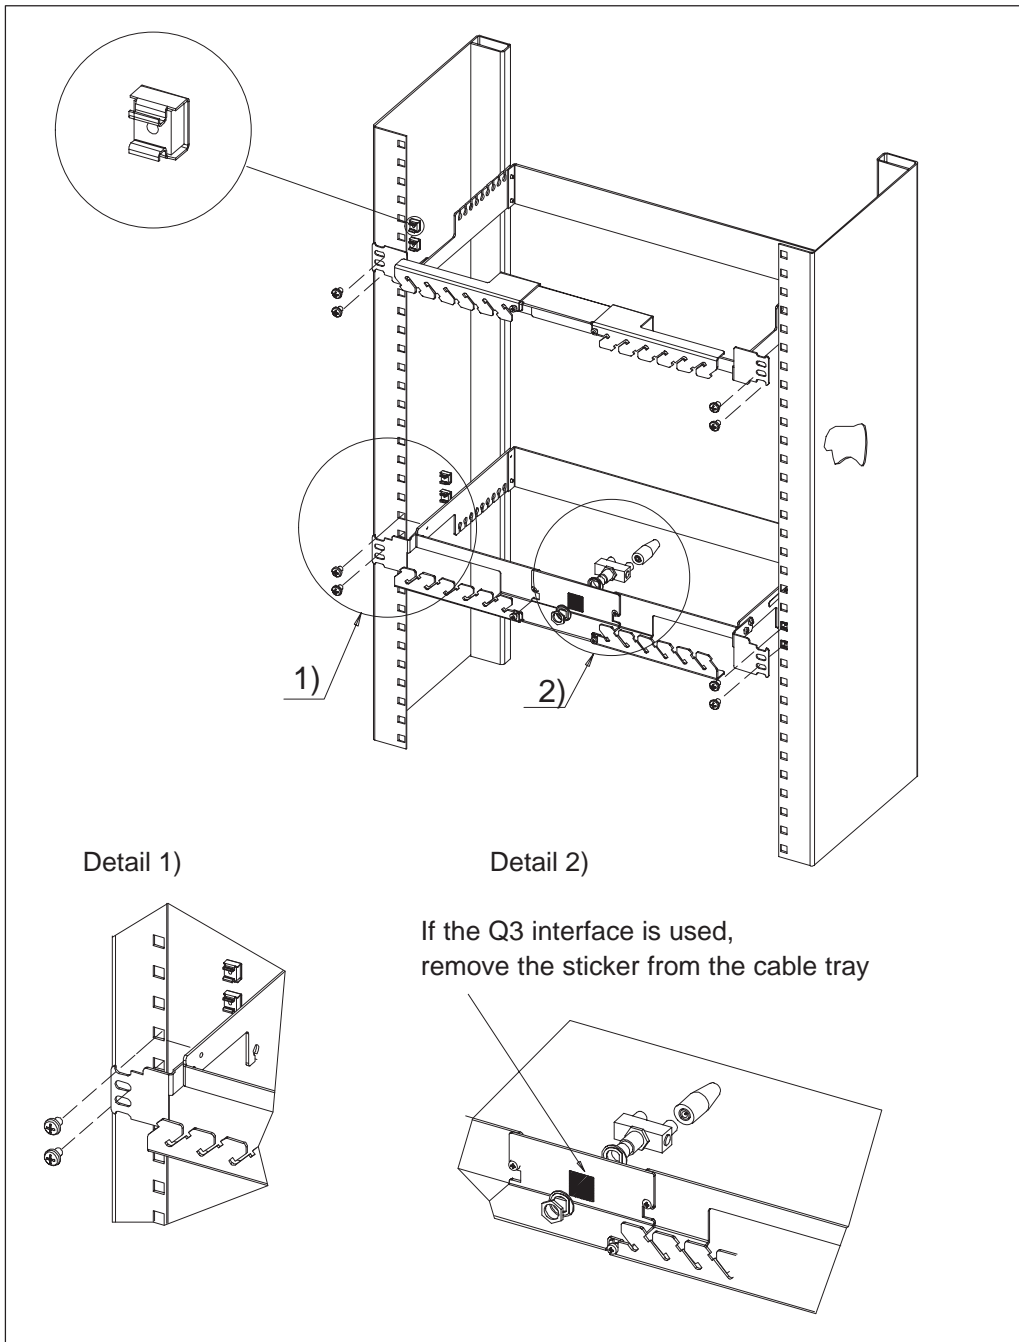

Figure 35 Mounting cable trays to ETSI rack
- ▶ To mount the cable trays to an ETSI rack (see Figure 35):